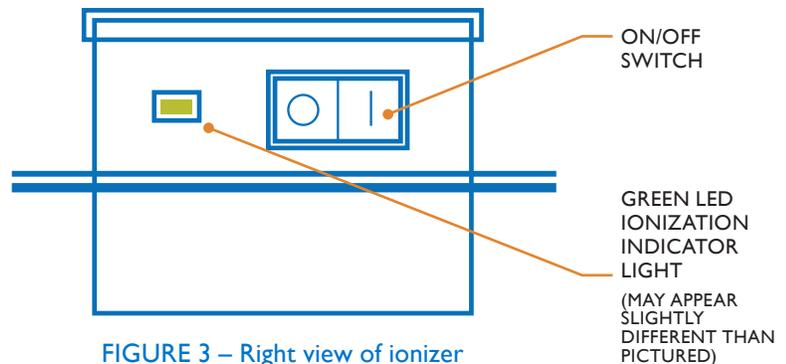

FIGURE 3 – Right view of ionizer
1. When power is supplied to the ionizer and the switch is in the “on” position, the ionizer will be activated and will illuminate the green ion indicator light. (See Figure 3)